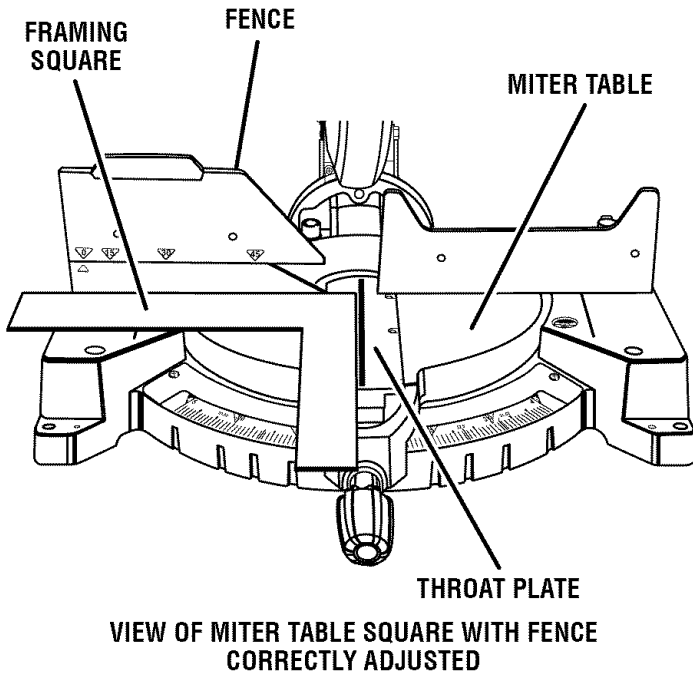

Fig. 23
See Figures 23 - 26.
- Lay a framing square flat on the miter table. Place one leg of the square against the fence. Place the other leg of the square beside the throat plate in the miter table. The edge of the square and the slot in the throat plate in the miter table should be parallel as shown in figure 23.